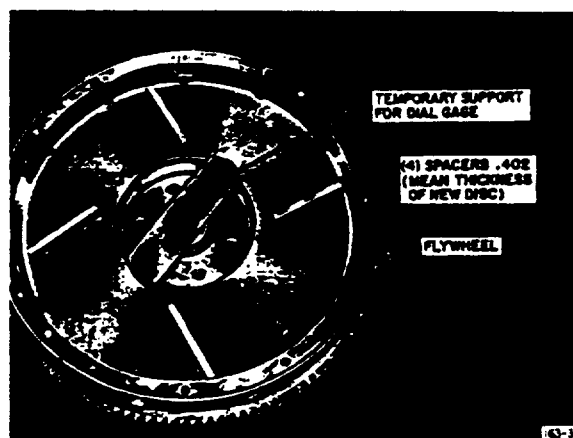

Figure 5-26. Clutch Lever Adjustment Spacer Arrangement in Flywheel
7. Lay engine flywheel on bench. Make up four spacers exactly .402 inch thick each and arrange them on flywheel rubbing surface. The spacer thickness of .402 inch corresponds to the mean driven disc assembly thickness under load. See Figure 5-26. Then without disturbing the .402 inch spacer arrangement, position clutch in flywheel counterbore. Install clutch to-flywheel capscrews with their lock washers. Tighten capscrews a turn or two at a time, in rotation, so cover will not be cocked and forced into flywheel pilot by the tightening of the screws.